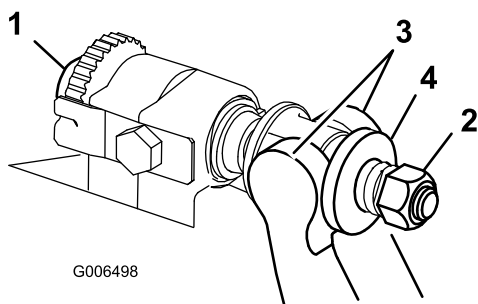

Figure 23
- Turn bedbar adjuster screws, counterclockwise, to back bedknife away from reel (Figure 23).
- Back out the spring tension nut, until the washer is no longer tensioned against the bedbar (Figure 23).